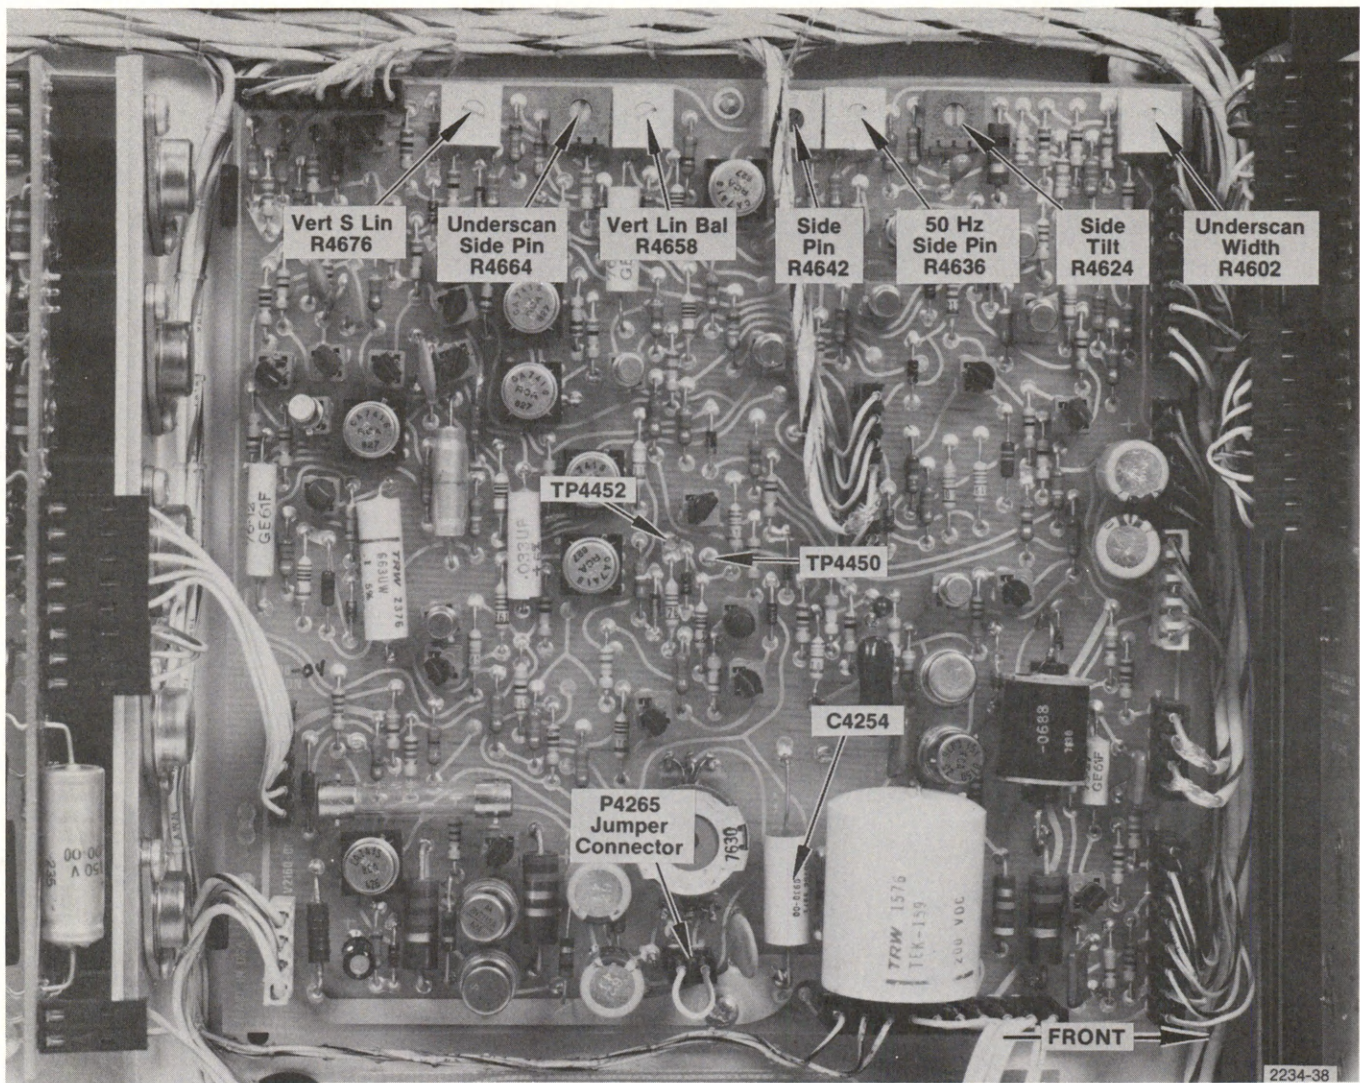

Fig. 6-21. Main Deflection board test point and component locations for the calibration procedure.
c. ADJUST—Left front-panel HORIZ SIZE (R7480). If horizontal linearity is not within specification, move jumper connector P4265 (see Fig. 6-21) to different pins. If necessary, select value of C4254.
c. ADJUST—Left front-panel VERT SIZE (R7280). If vertical linearity is not within specification, adjust Vert S Correction R4676 and Vert Lin Bal R4658 (see Fig. 6-21). Readjust the VERT CENTERING adjustment to maintain a centered pattern.
c. ADJUST—Side Pin R4642 to minimize bowing and Side Tilt R4624 to minimize tilt. Fig. 6-21 shows the adjustment locations for this step.